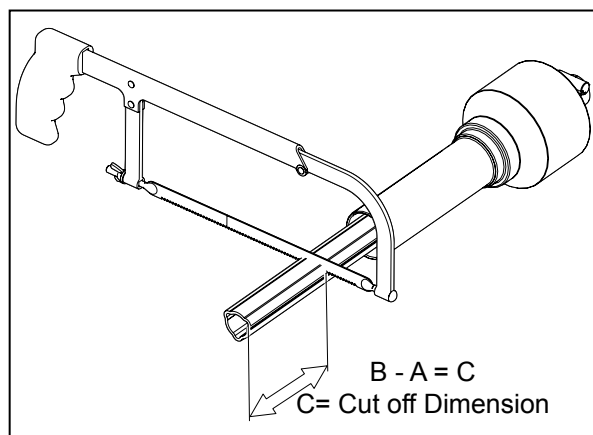

Fig. 5 CUT OFF DIMENSION
- a. Subtract the machine dimension "A" from the uncut driveline dimension "B", see fig 5. This dimension determines how much the shaft needs to be shortened.
- b. To be sure the shaft doesn't bottom out, add one inch (25 mm) to the cut off dimension to determine (C) the final cut off dimension.
- c. Use a hacksaw to cut dimension (C) from both ends. Cut both the plastic tubes and the metal cores.